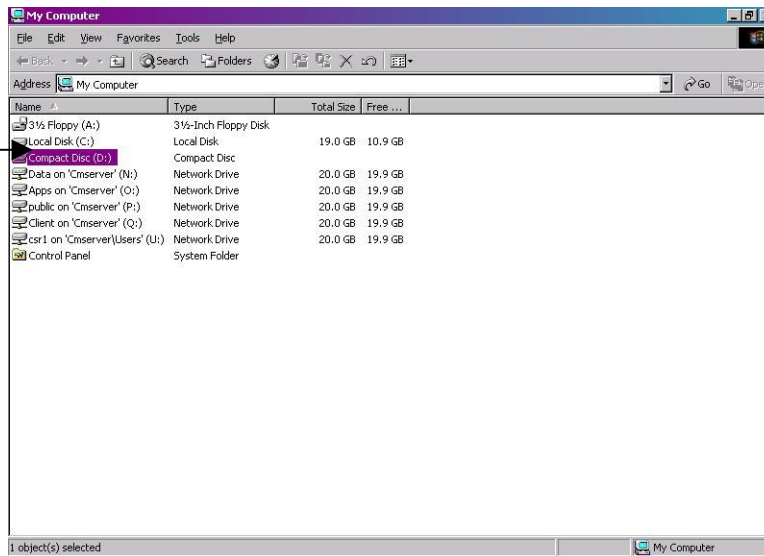

Figure 6.1.1.2.3: Selected the CD Drive
3. Right click on the highlighted drive to bring up the right click menu (see Figure 6.1.1.2.4).